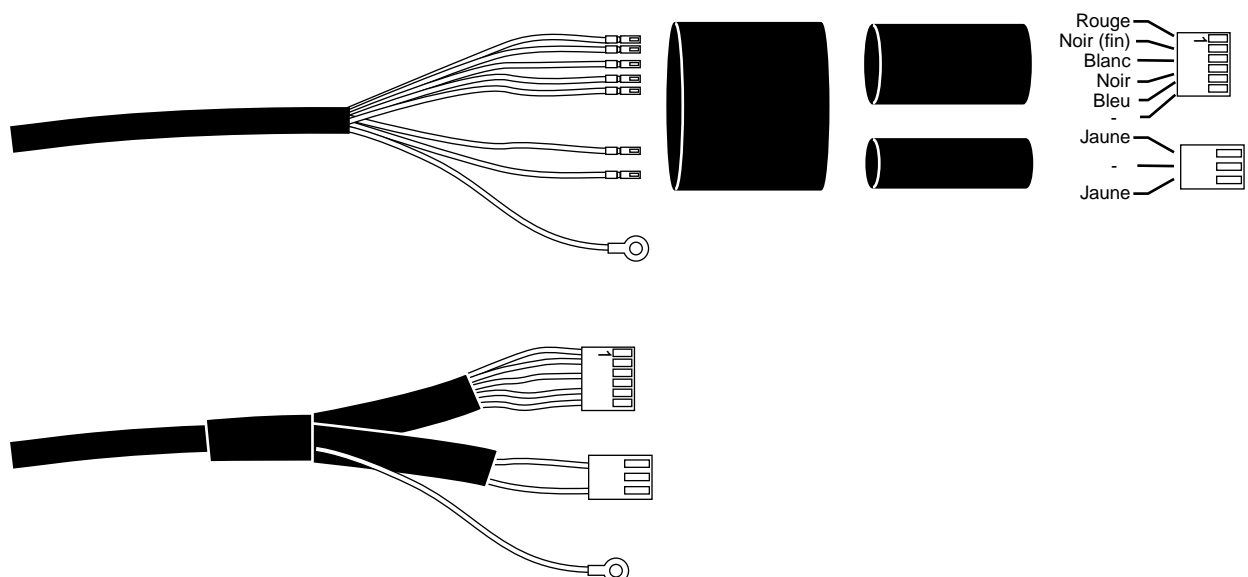

Figure 13
- o) Connect the arm cable leads to the connectors as described in Fig. 13 below.